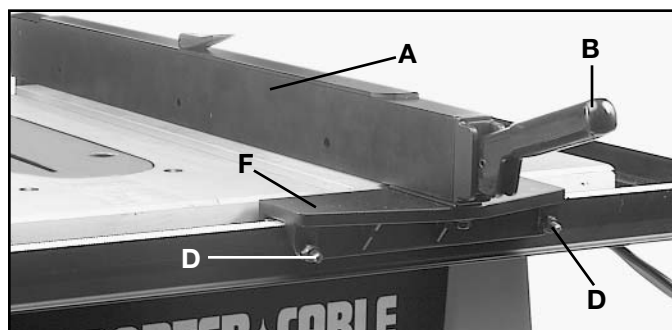

Fig. 22A
1. To move the rip fence (A) Fig. 22A, along the table, lift up fence locking lever (B), slide the fence to the desired location on the table and push down fence locking lever (B) to lock the fence in position.
5. Position the fence close to the miter gage slot, as shown in Fig. 22A. Push fence toward saw to insure alignment screws are in contact with the fence rail. Clamp the fence to the table by pushing down the locking lever (B). The fence should be parallel with the miter gage slot.
7. Loosen the two screws and jam nuts (D) Fig. 22A, and lift up locking lever (B). Then while holding the fence bracket (F) Fig. 22A firmly toward the rear, move the rear end of the fence (A), by adjusting the two screws (D) until the fence is parallel with the miter gage slot. Then push down locking lever (B). Tighten jam nuts (D) on adjusting screws.